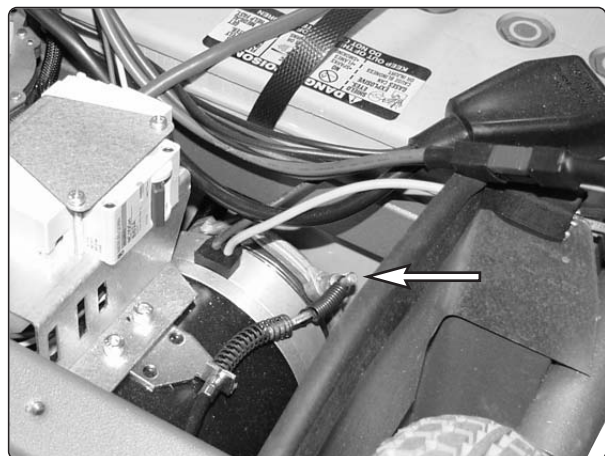

Fig.23. Magnetic brake release cable.
6. Fit the brake release cable, see fig. 23.